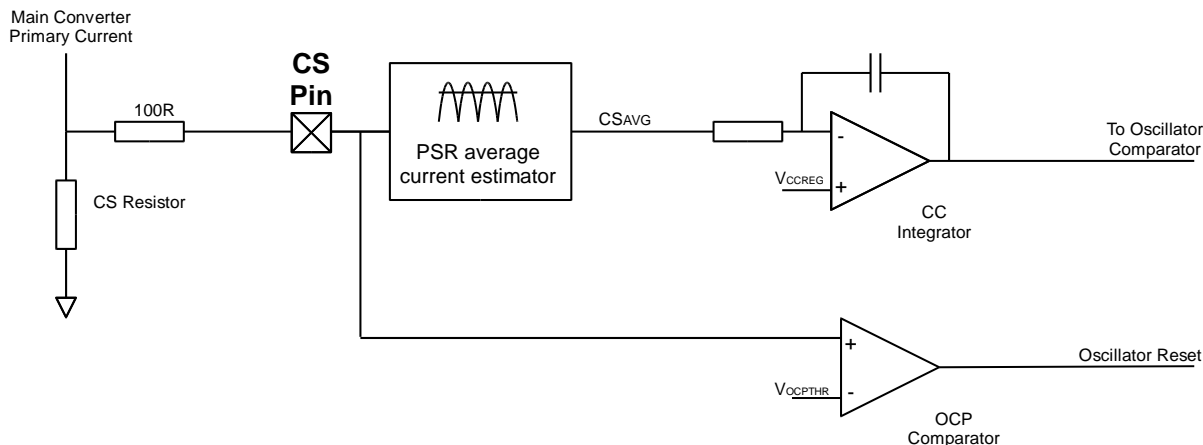

Figure 8: RED2821 Current protection and control circuits
Figure 8 shows the two current control methods used in the converter:
It can be seen in figure 8 that the signal from the CS pin is divided into two different paths. The bottom path provides peak instantaneous over-current protection (OCP) while the PSR Average Current estimation block provides the current regulation (CC) information. The voltage on the CS pin is an AC signal biased around GND. Inside the PSR block this signal is processed to provide a voltage proportional to the average converter output current.
The CC regulation circuit is shown in figure 8. CC operation is defined by an internally compensated control loop. This provides a system response time of approximately 150us in a typical application.